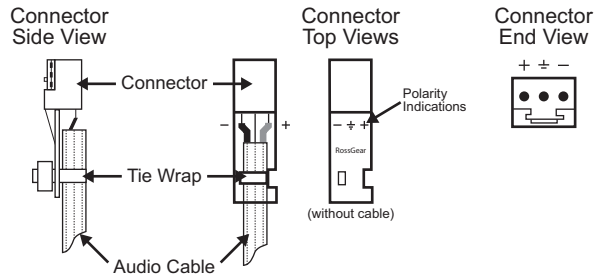

Figure 10 Connector Wiring for the Breakout PCB 3-pin Connectors
1. Insert a wire to the designated polarity slot on the connector of the rear panel. (**Figure 10**)